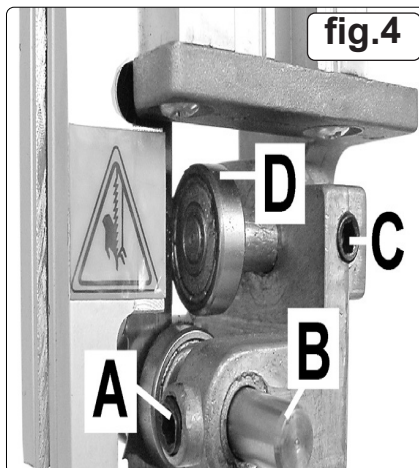

fig.4
6.5.1. The upper blade side guides prevent excessive sideways movements of the saw blade. They should be adjusted so that they are just clear of the saw blade. Adjust the guides (figs.4 & 5A) on both sides. Turn the top wheel twice to check correct alignment and that are correctly positioned, then tighten the locking nuts to secure. Re-check guides for correct positioning.
6.5.2. The upper blade guide rear bearing prevents the saw blade from being pushed backwards when cutting. It should be adjusted so that it is just clear of the blade (0.75mm). Loosen knob (figs.4 & 5.C) and move the bearing (figs.4D) inwards so that it touches the blade, then adjust it out slightly to just clear of the saw blade. Tighten knob to secure. Re-check for correct positioning.
6.5.3. Knob (fig.4 & 5B) is for adjustment / leveling of bearing housings and can be moved backwards and forwards in conjunction with bearing (fig4.D).